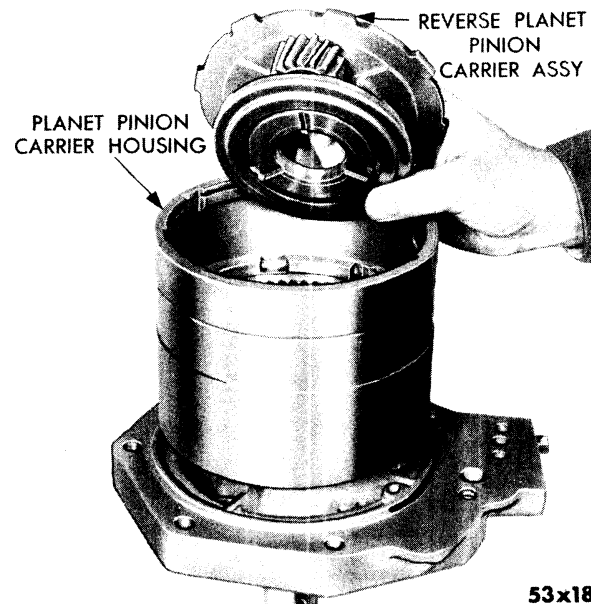

Fig. 80—Removal and Installation of Reverse Planet Pinion Carrier Assembly
- (9) Remove reverse planet pinion carrier assembly from planet pinion carrier housing. (Fig. 80.) Do not replace carrier unless